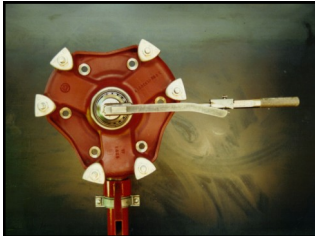

Fig 6.
Step 5. Push the hub onto the axle, fit the outer bearing cone and retaining nut. Torque to **600ft.lb**, while rotating the hub. See Fig 6.